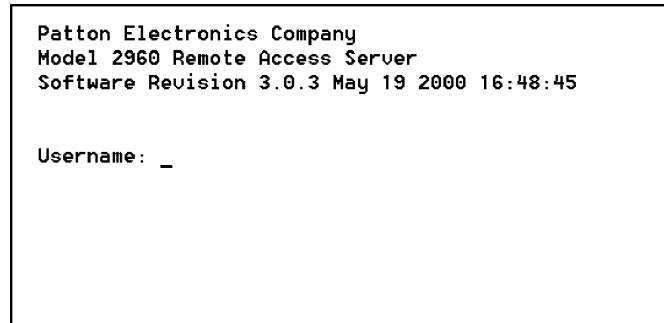

Figure 16. Login window
4. Press <RETURN> to display the login window, which will resemble that shown in figure 16.